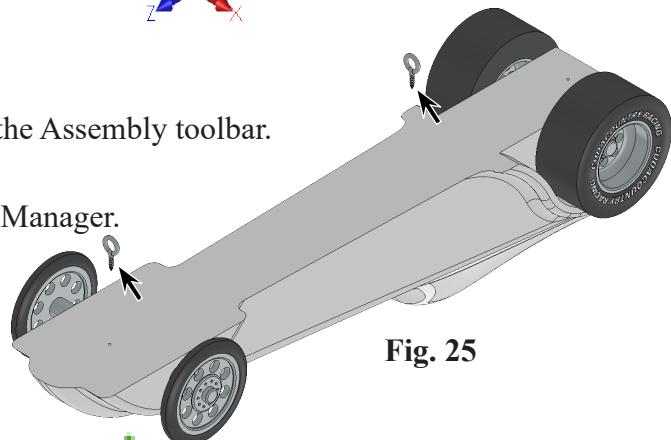

Fig. 25
Step 2. Rotate view to bottom side, click **Isometric** on the Standard Views toolbar (Ctrl-7), then **Shift click the Z axis of the Reference Triad** twice (bottom left corner of graphics area), **Fig. 25.**
Step 6. **Insert two Eye Screws, Fig. 25** and click OK in the Property Manager when done.